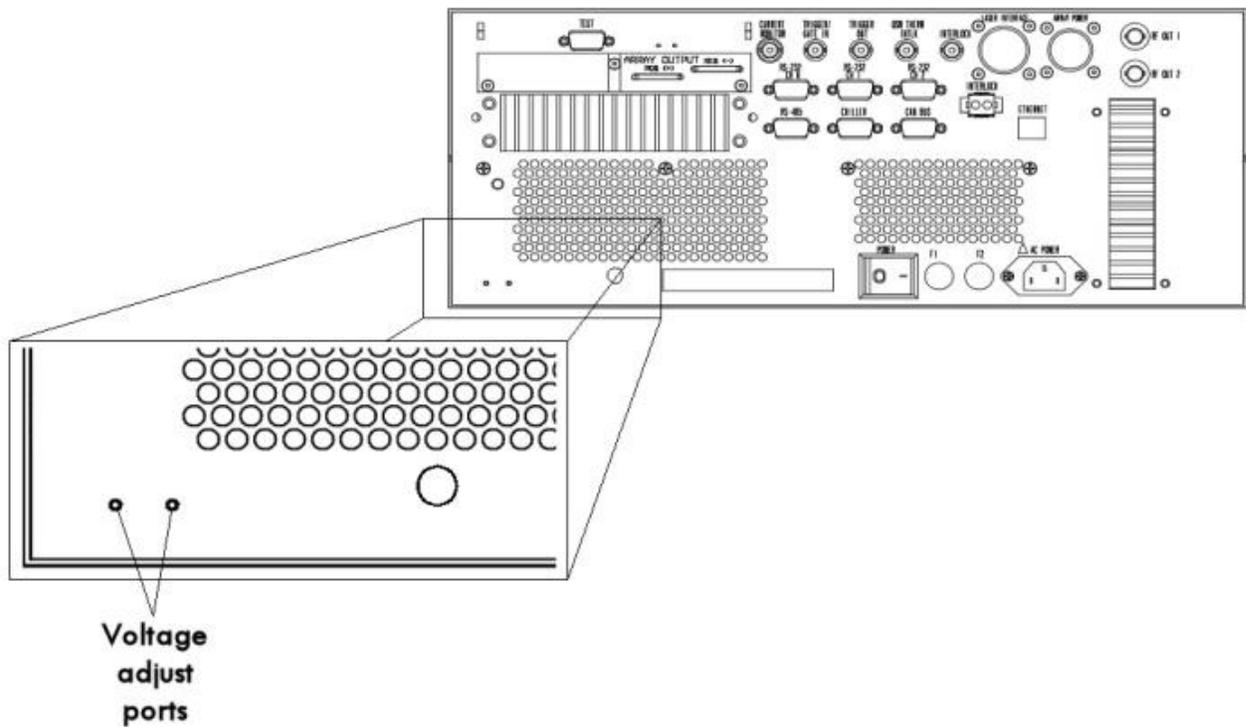

Figure 3-1. Voltage Control Access Ports
6. Locate the voltage control access ports on the Rear Panel as shown in Figure 3-1.